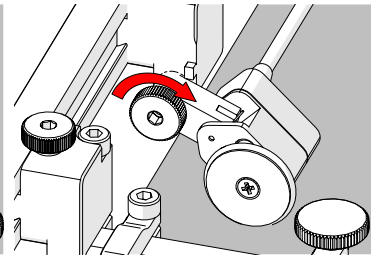

Fig. 6 - Ensure spring tension
- Tighten the encoder thumb screw and ensure adequate spring tension of the encoder wheel to the scan surface (Fig. 6).